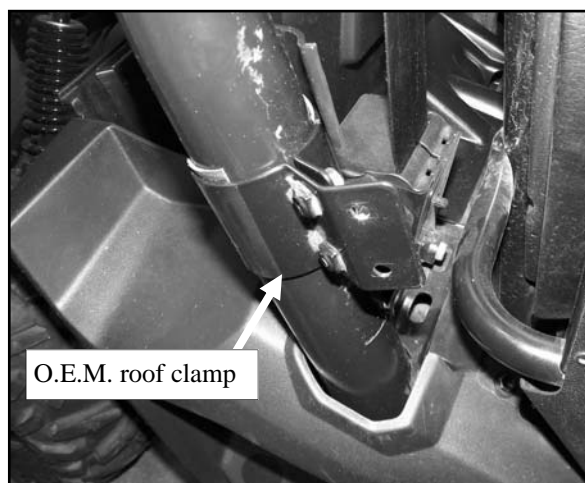

Fig. 6.2 (View of rear right corner)
6.2 See fig. 6.2. Mount the O.E.M. roof clamp to the R.O.P.S. tubing toward the bottom as shown. Leave bolts loose at this time. Repeat for left side.